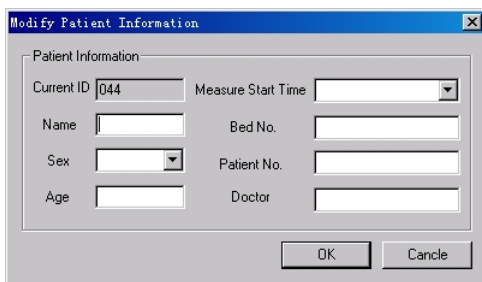

Figure 7-17 Modify Patient Information
1. Click <Patient Information> from the <Setup> menu, the “Modify Patient Information” dialog box will pop up as shown in Figure 7-17.